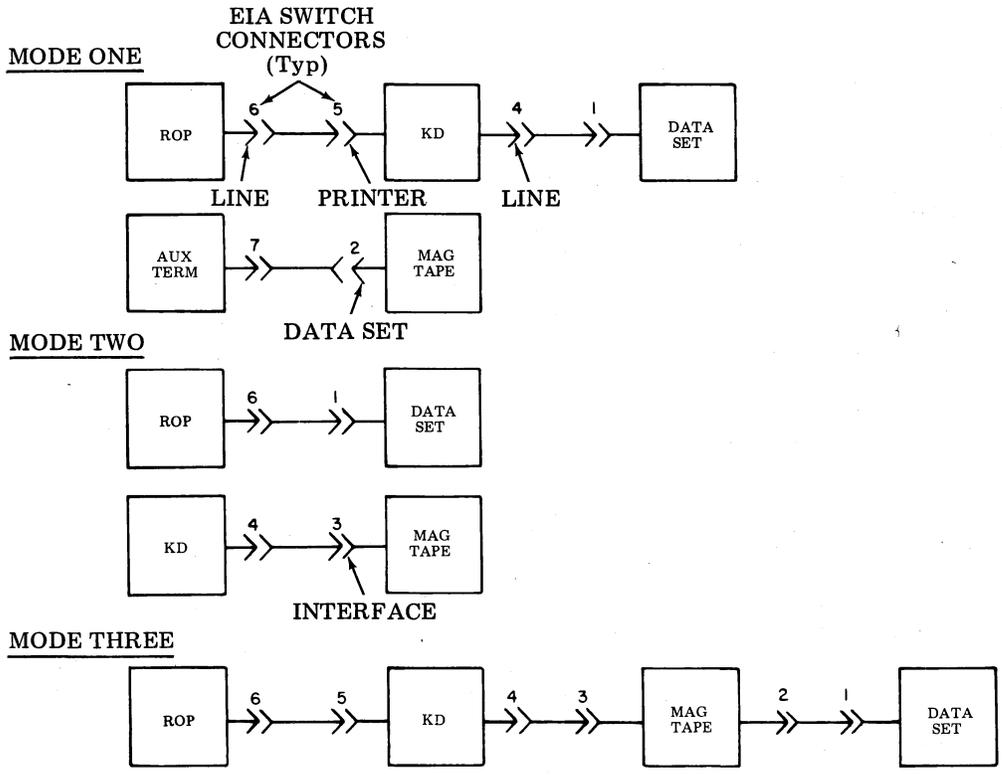

Fig. 9—Magnetic Tape Terminal With DATASPEED 40 KD and ROP With Optional Auxiliary Terminal
→ 3.14 The DTR signal lead in receptacle 1 (pin 20) has an integrating 10 mfd capacitor to provide mode switching to receptacle 2, 4, or 6, during on-line operation, although, this mode of operation is not recommended. Even with the DTR signal integrated, mode switching completion depends on speed and skill of the operator when operating the pushbuttons. The data set must be plugged into receptacle 1. Fig. 9 through → 12 show practical station arrangements using the switch assembly.
6.01 The system may be designed to use substitute terminal equipment or modify the station arrangements within the limits of the switch assembly. Some typical station arrangements using the EIA switch with a DATASPEED 40 KD, KDP, ROP, and/or DATASPEED Magnetic Tape Terminal with an auxiliary terminal are shown in Fig. 9, 10, 11, and 12 and provide
6.02 Mode one provides DATASPEED 40 KD and ROP arrangement coupled to the DS (Fig. 9). This mode also provides interconnections between MT and an auxiliary terminal through connectors 2 and 7 (Table B) and modifies the auxiliary terminal interface to look like a data set. This condition enables bi-directional (terminal-to-terminal) signaling.